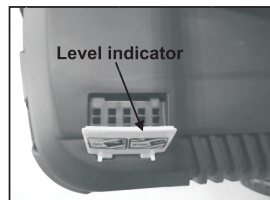

Fig. 13A
- The level indicator remains open if the grass catcher is not full. (Fig. 13A)